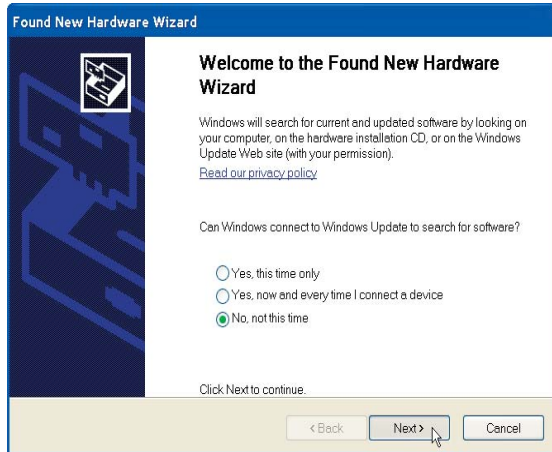

Figure 3.13
8. The *Found New Hardware Wizard* will appear. Select **No**, **no this time** and click **Next**. (Figure 3.13)